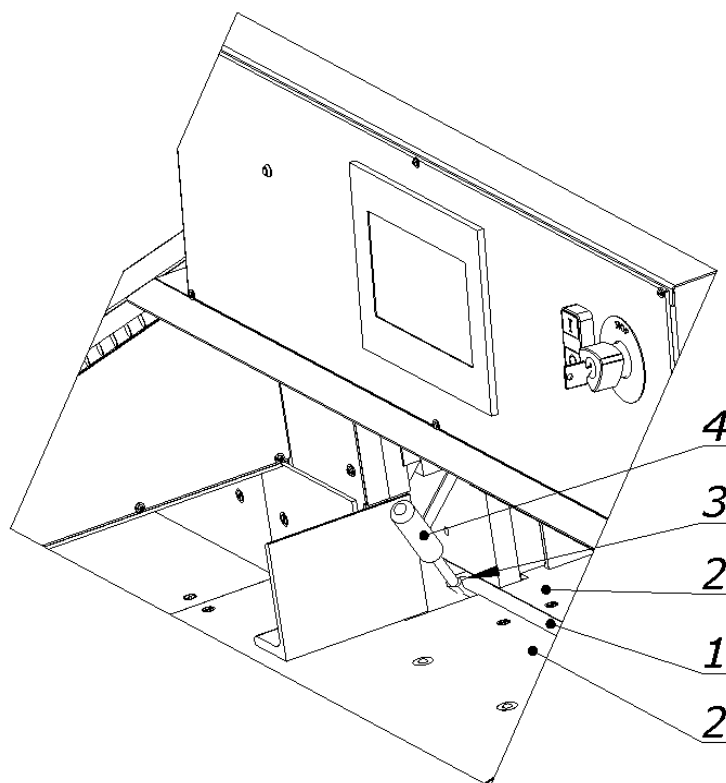

Figure 37. The method of removing cutting stick
8.2.1 Lift (lift) the stick 1 with a screwdriver 4 (fig. 37)
8.2.3. Introduce the replaced stick into the channel between the tables 2 and place it on the dowel 3 (Fig.37)